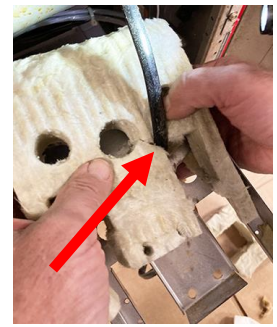

Figure 62
63. Lay the insulation over the lower insulation cover and slide the temperature probe harness through the slit in the insulation (see Figure 62).